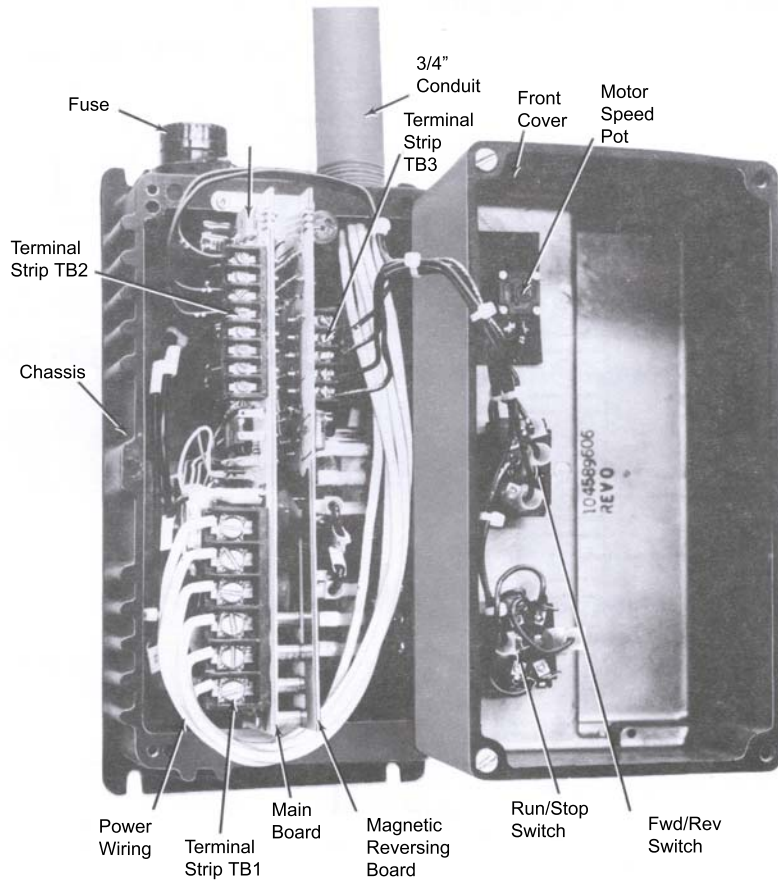
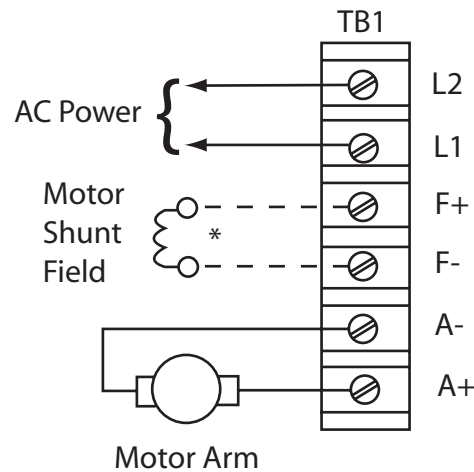

Figure 4. Internal View Beta Controller
Figure 5. AC Power And Motor Connections
9. Prepare for wiring by removing the front cover (if applicable) and attaching it to the chassis as shown in Figure 4.
10. Use #14AWG stranded wire and connect the line and motor wiring to Terminal Strip TB1 as shown in Figure 5. Route the wiring as shown in Figure 4.
NOTE: Connections shown in Figure 5 do not provide positive disconnect of power from the motor on Models RB1 and RB2. Model RB1 should only be connected to 115VAC power. Models RB2 and RB3 are shipped for connection to 230VAC power, but they are reconnectable for 115VAC power per Figure.
13. Use Alpha No. 1898 or equal twisted cable and connect the operator controls to the controller as shown in Figure 6 or 7. Maintain separation between the power wiring (Figure 5) and the operator control wiring by 2” minimum.
2. Turn the MOTOR SPEED pot to zero on its dial and check minimum speed, which is normally set for zero. To readjust minimum speed, turn the MIN SPD pot on the main board. See Figure 4.